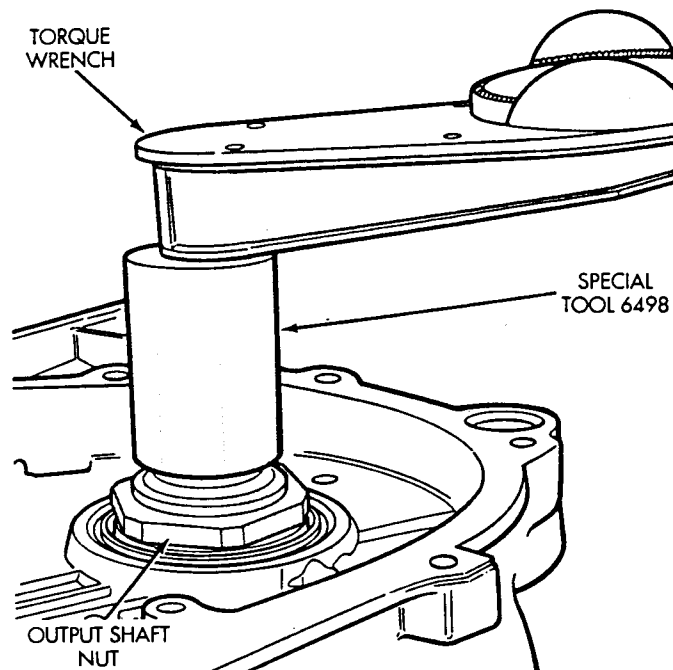

Fig. 6 Checking Turning Torque
(7) Using special tools 6497 and 6498, install new output shaft nut. Do not reuse old output shaft nut. Tighten new output shaft nut to 271 N·m (200 ft. lbs.).
(8) Check the turning torque of the output shaft (Fig. 6). The shaft should have 1 to 8 in. lbs. of turning torque. If the turning torque is **higher than 8 in. lbs.**, install a thicker shim. If the turning torque is **less than 1 in. lb.**, install a thinner shim. Make sure there is no end play.